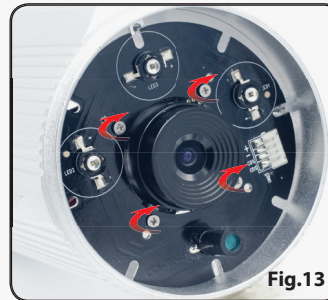

Fig.13
Step 10: Now put the whole front part back into the camera casing and secure it with the three outer screws removed before in Step 3 (**Fig. 4**). You will now need to move the lens closer to the glass cover. In order to do that, you need to fasten the four screws on the LED board by one turn (**Fig. 13**). Don't turn them too far since that would cause the lens to come too much forward which will give pressure to the front glass and you will risk damaging the front glass of your camera permanently.